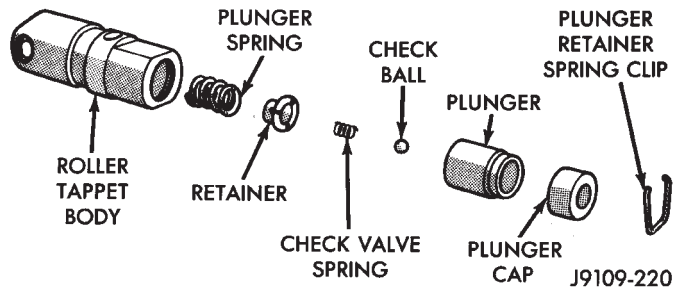

Fig. 54 Hydraulic Tappet Assembly
- (1) Pry out plunger retainer spring clip (Fig. 54).
- (2) Clean varnish deposits from inside of tappet body above plunger cap.
- (3) Invert tappet body and remove plunger cap, plunger, check valve, check valve spring, check valve retainer and plunger spring (Fig. 54). Check valve could be flat or ball.
- (1) Clean all tappet parts in a solvent that will remove all varnish and carbon.
- (2) Replace tappets that are unfit for further service with new assemblies.
- (3) If plunger shows signs of scoring or wear, install a new tappet assembly. If valve is pitted, or valve seat on end of plunger is prevented from seating, install a new tappet assembly.
- (4) Assemble tappets (Fig. 54).